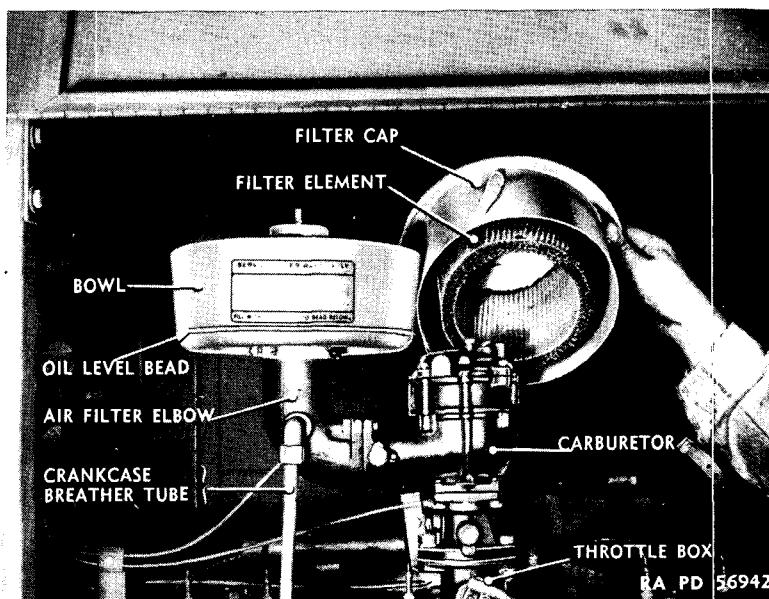

Figure 46—Air Filter and Cap
(1) INSTALL CARBURETOR ON THROTTLE BOX. With gaskets in place, install cap screws, lock washers, and nuts that attach carburetor to throttle box.
(2) CONNECT AIR CLEANER ELBOW AND CARBURETOR. Install cap screws to connect air cleaner elbow and carburetor.
(3) ATTACH CHOKE AND THROTTLE LINKAGES. Attach throttle wire to throttle lever and choke wire to choke lever on carburetor.
(4) CONNECT FUEL LINE. Carry compression fitting nut over the end of the fuel line, bring fuel line into fitting, and tighten nut to produce a firm joint.
65. AIR CLEANER (fig. 46).